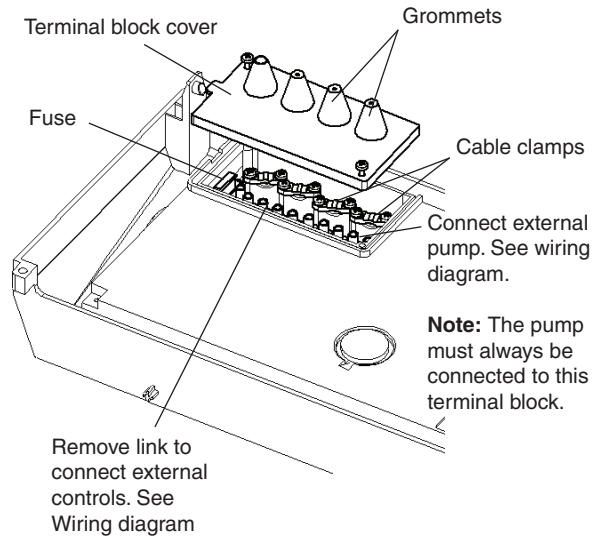

Fig. 4.13
4.9 CONNECT THE MAINS SUPPLY - Fig. 4.13
Remove the two screws securing the terminal block cover from the back of the control box (see Fig. 4.13). Pass the mains supply cable through the grommet and cable clamp and connect as follows:- Brown to L, Blue to N and Green/Yellow to $\perp$. Ensure correct polarity.